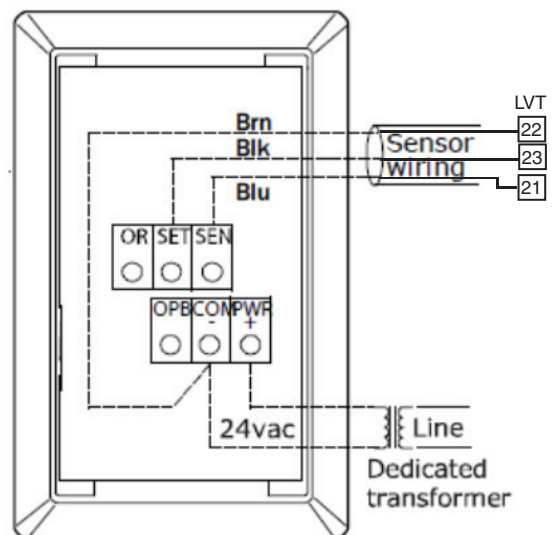

Fig. 29 — Space Temperature Sensor Typical Wiring (33ZCT59SPT)
- Space temperature sensor (33ZCT59SPT) with occupancy override button, space temperature offset, and LCD (liquid crystal display) display (see Fig. 29)